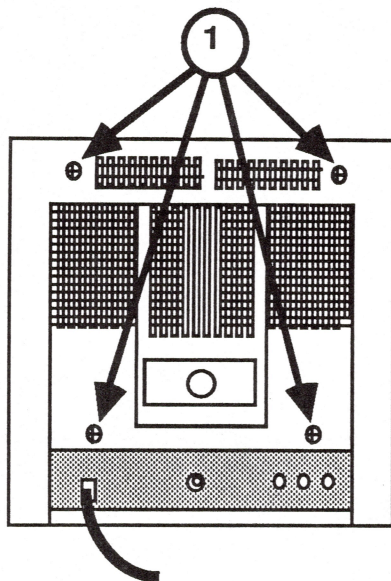

FIGURE 34
2. Replace the four screws (Figure 34, #1) at the back of the monitor.